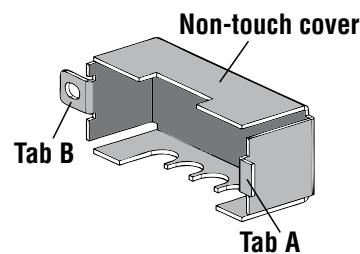
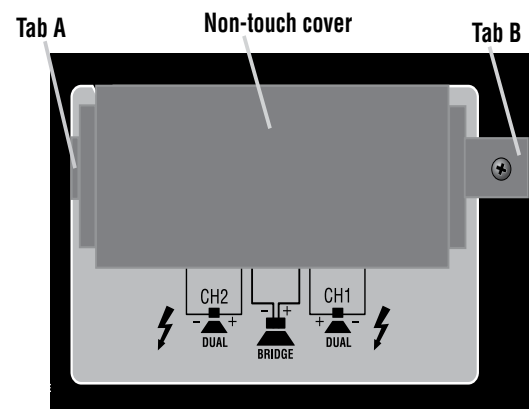

Figure 4.2 Interior of Non-Touch Cover
Figure 4.3 Cover Placement Over Output Terminals
2. The cover has two tabs A and B (Figure 4.2). Insert tab A into the slot just to the left of the output terminals (Figure 4.3).
3. Put the screw through tab B, and screw it into the hole just to the right of the output terminals (Figure 4.3).